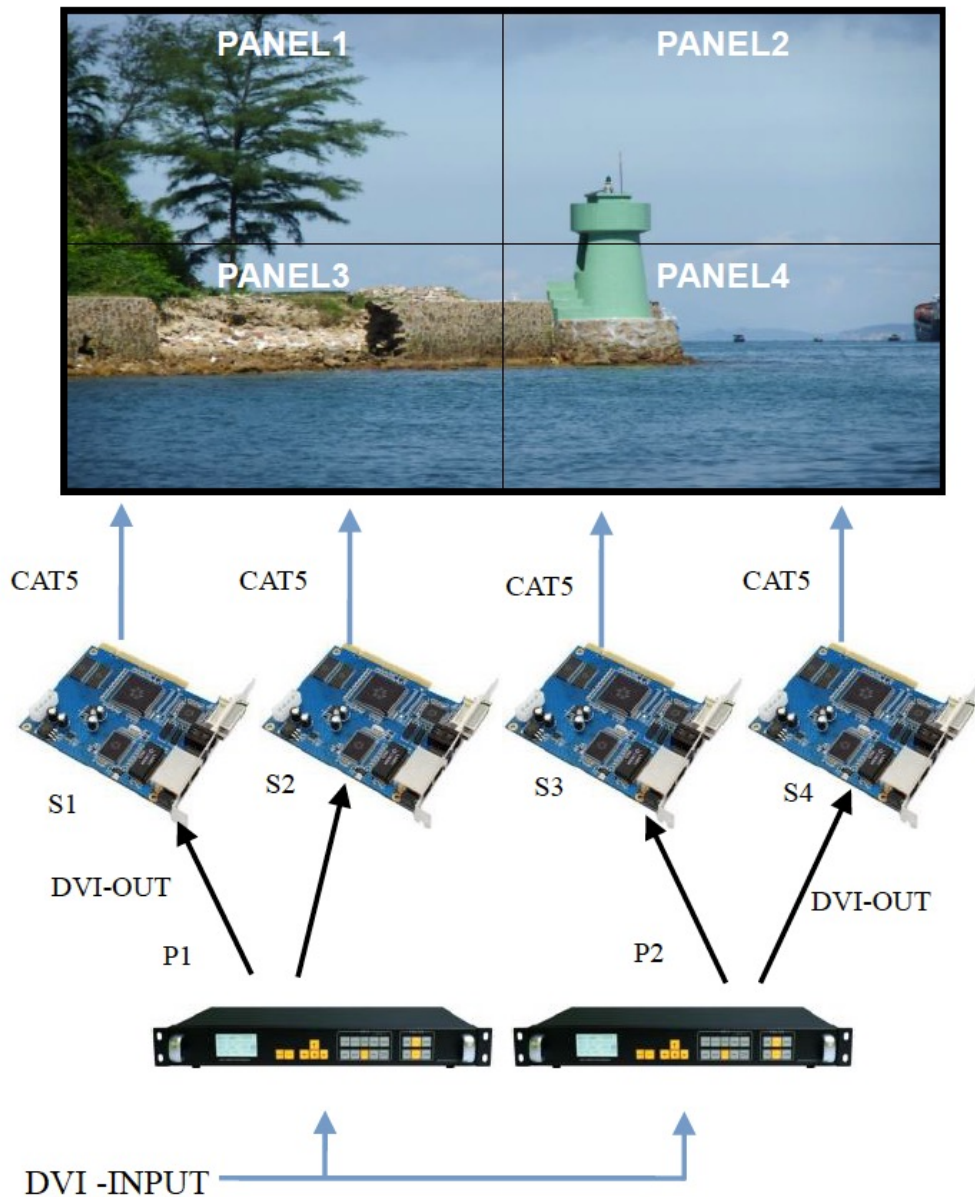

Figure 14-Unequal Splicing
1.Refer to Figure 14 Connect all devices.